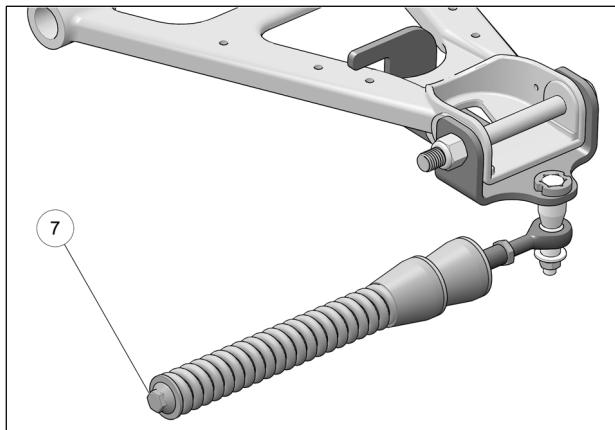

Fig. 13
12. Verify that spring assembly bolt (7) is tightened to the recommended torque specification: 75 N·m [55 lb·ft]. Refer to Fig. 13